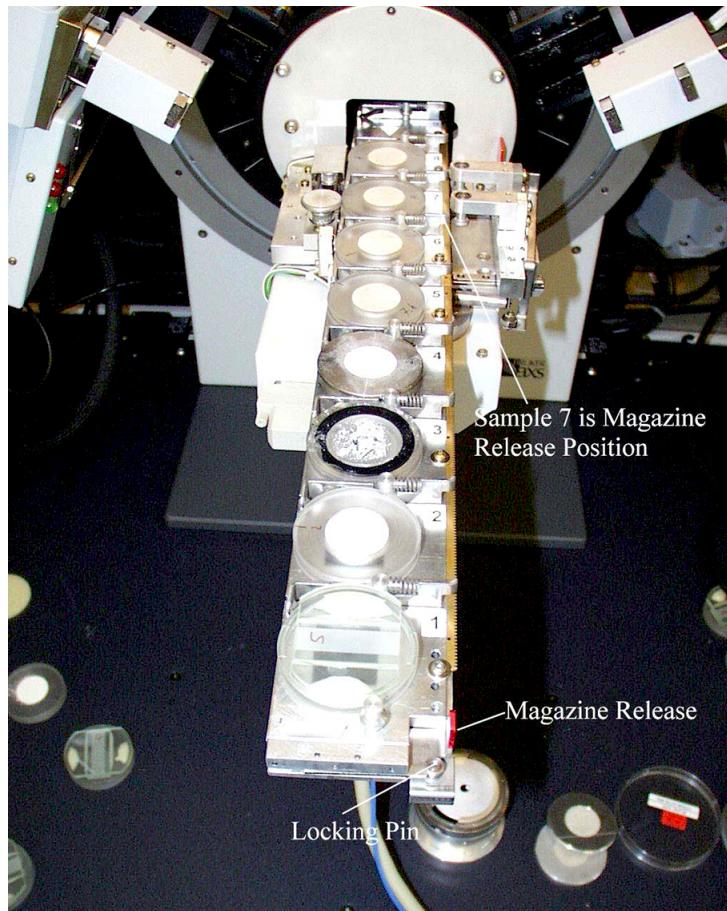

Figure 5.49: FLIP-STICK in release position
4. Push red **Magazine release** actuator of magazine and release it when magazine is in position, i.e. it has fixed the locking pin of the magazine (Figure 5.49).